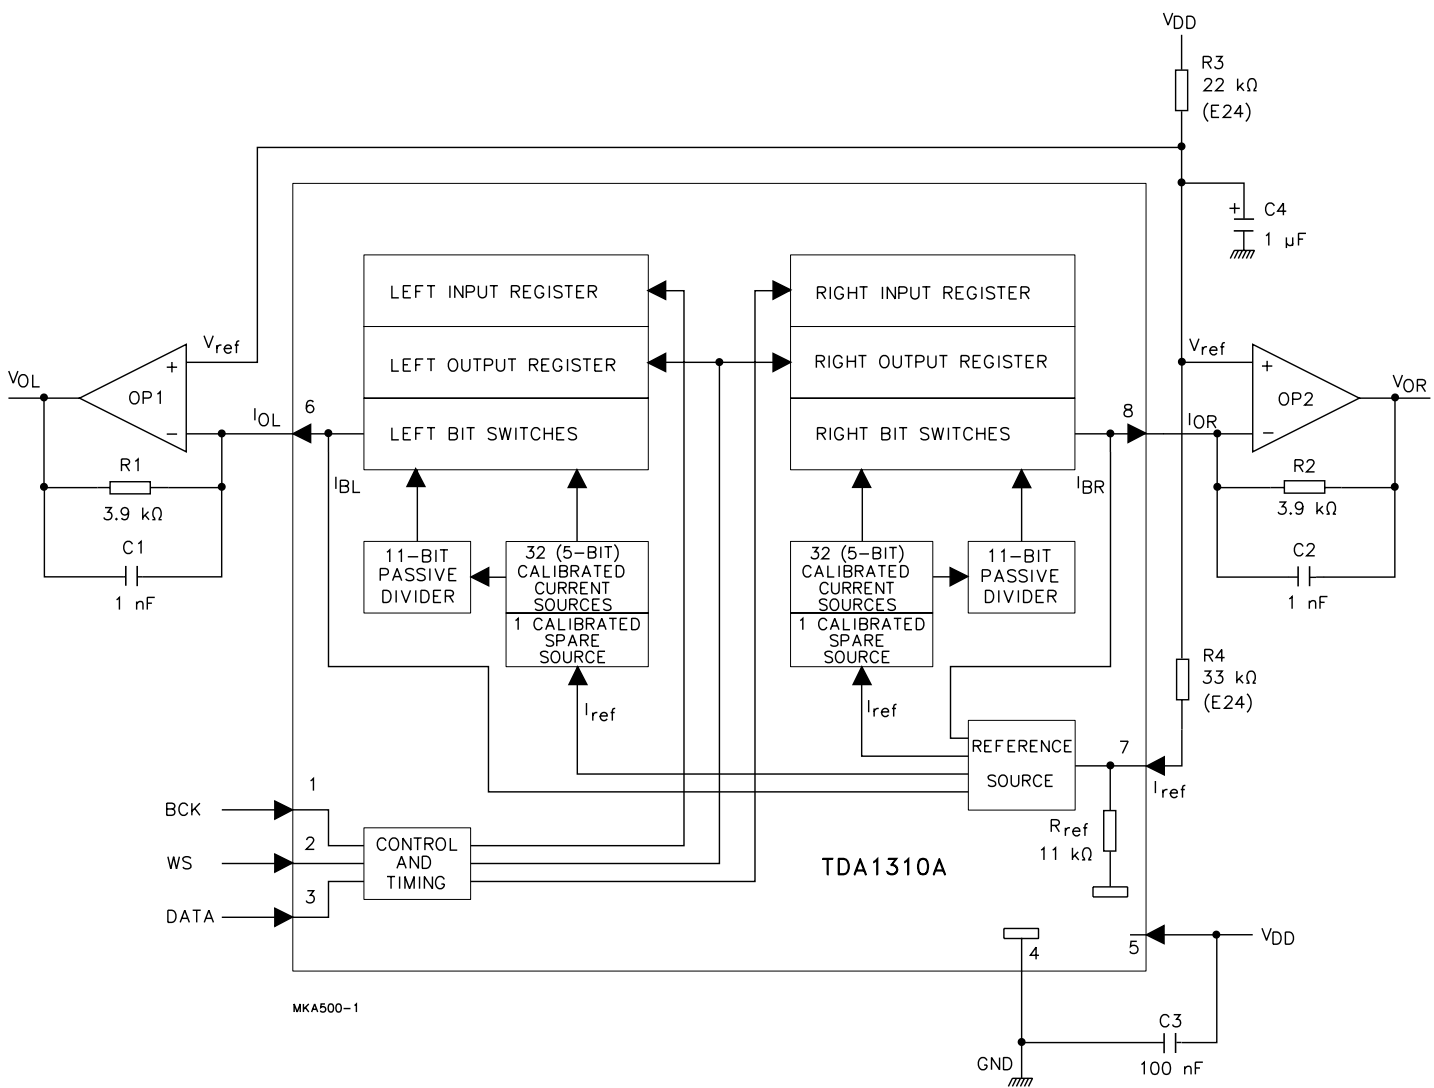

Fig.1 Block diagram.
The 32 current sources and the spare current source of the TDA1310A are continuously calibrated (see Fig.1). The spare current source is included to allow continuous converter operation. The output of one calibrated source is connected to an 11-bit binary current divider consisting of 2048 transistors. A symmetrical offset decoding principle is incorporated and arranges the bit switching in such a way that the zero-crossing is performed only by switching the LSB currents.
With a HIGH level on the word select input (WS), data is placed in the left input register, with a LOW level on the WS input, data is placed in the right input register (see Fig.1). The data in the input registers are simultaneously latched in the output registers which control the bit switches.
An internal bias current I_{bias} is added to the full scale output current I_{FS} in order to achieve the maximum dynamic range at the outputs OP1 and OP2 in Fig.1.
The reference voltage V_{ref} in Fig.1 is 2/3 V_{DD}. In this way maximum dynamic range is achieved over the entire power supply voltage range.
The tolerance of the reference input current in Fig.1 depends on the tolerance of the resistors R3, R4 and R_{ref}⁽³⁾.
$V_{DD} = 5\text{ V}$; $T_{amb} = 25\text{ }^{\circ}\text{C}$; measured in Fig.1; unless otherwise specified.